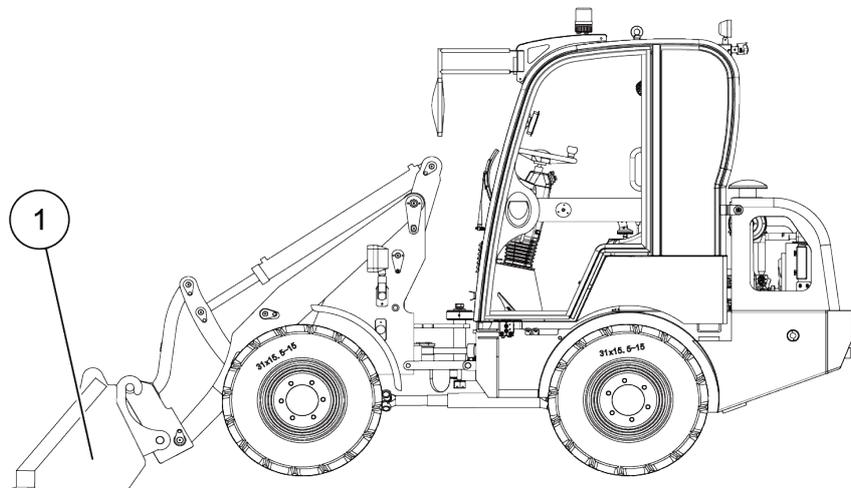

Figure 5-41 The posture of the loader when accessories are replaced
Step 1: Select a flat ground, put the bucket (1) to the ground by operating the control handle, as shown in Figure 5-41;